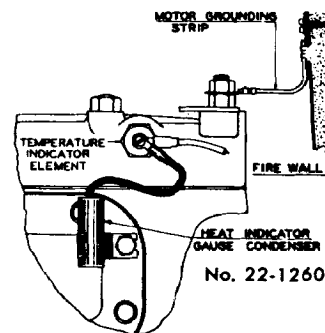
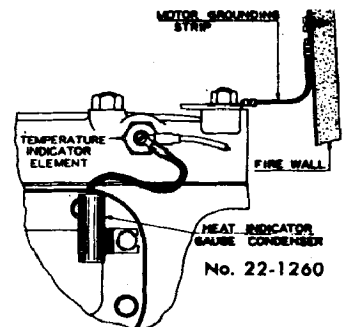

Fig. 7A.
Fig. 7B.
Attach the condenser lead to the water temperature element in the head. (Fig. 7A.)
5. Remove the tape from the hole (located near the left rear cylinder head nut) in the dash. Fasten the flat ground strip to this hole with a sheet metal screw and lock washer. On the six cylinder car, place the other end of the strip on top of the regular stud nut, and fasten it in place with the special nut furnished in the installation kit. (Fig. 7A.) On the eight cylinder cars, bolt the other end of the strap under the regular stud nut. (Fig. 7B.)